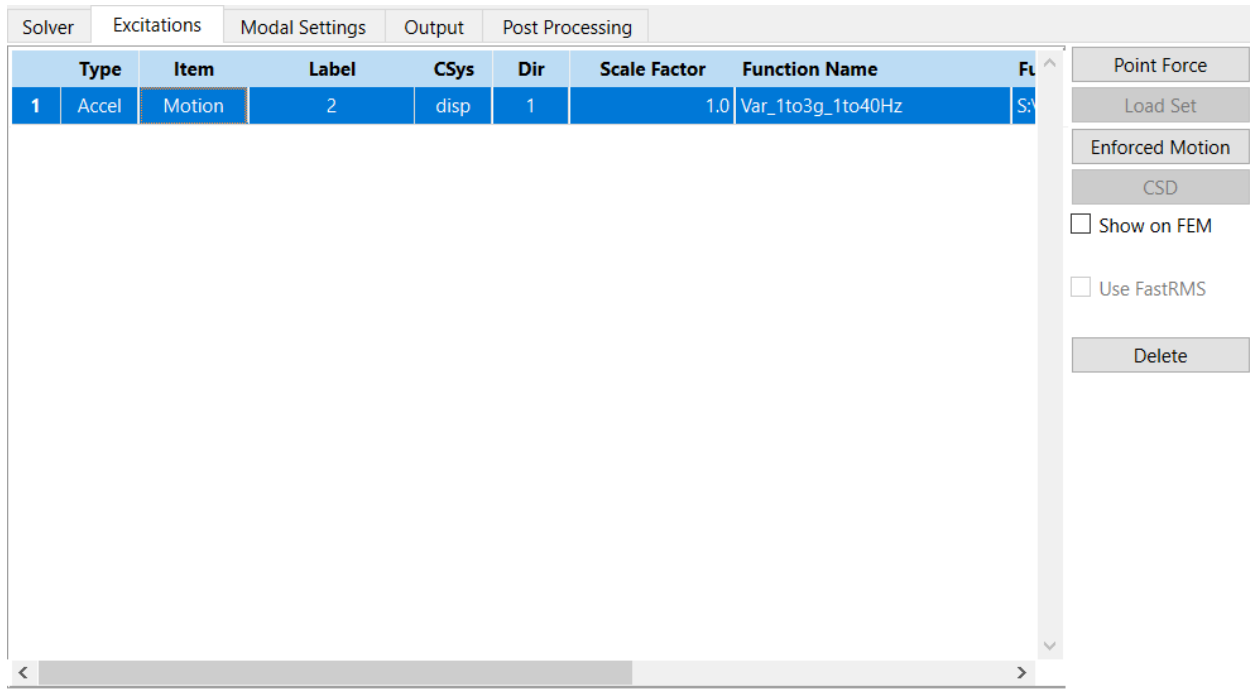

Figure 4-30. *Excitations* tab with resulting enforced motion definition.
- e. Select the constant forcing function for the first event. Your *Excitations* tab should look like Figure 4-30. Note that the excitation, because it is an enforced motion, is taken to be in the driven node's displacement coordinate system.